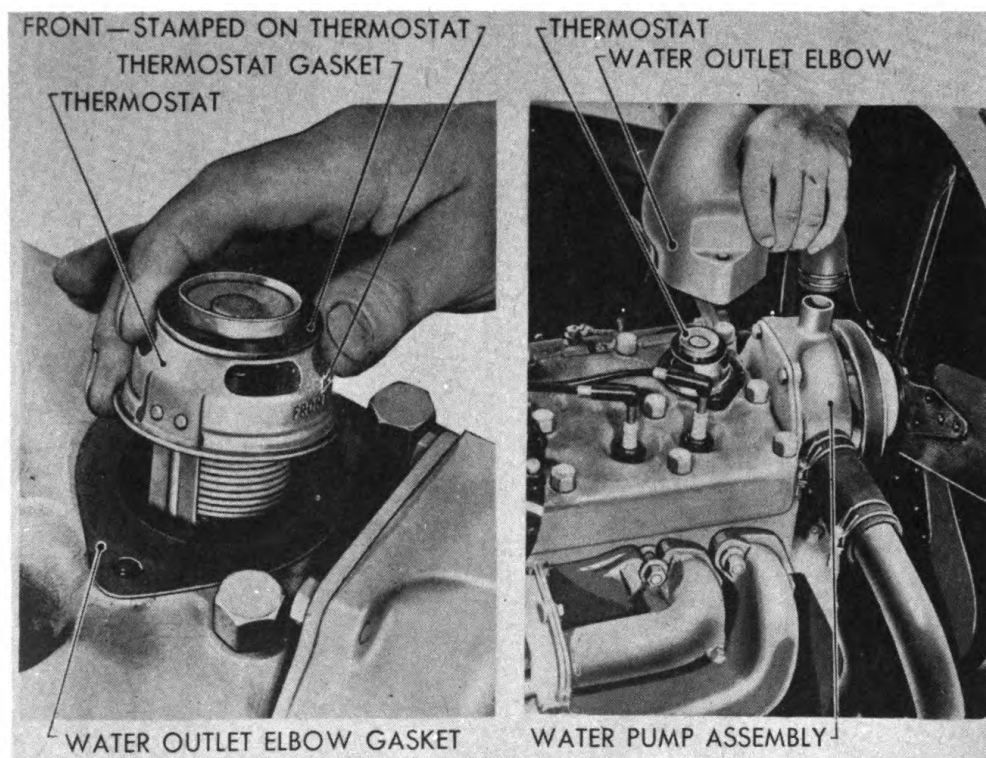
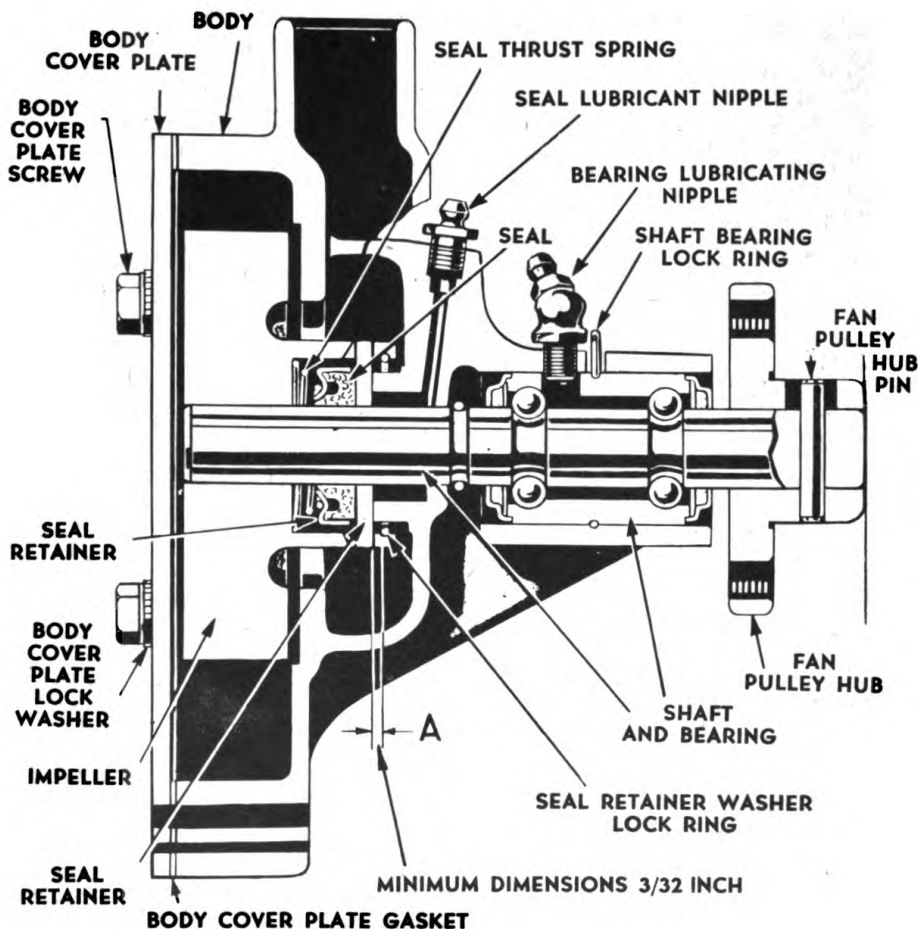

Figure 71—Cooling System—Thermostat Control
Figure 73—Cutaway View of Engine Water Pump
cylinder block, the solution circulates to and through the fin and tube type radiator where heat is dissipated into air drawn through the radiator by a fan. The circulation of the cooling solution and engine temperature are automatically controlled by a thermostat and bypass located in the cylinder head. (Figures 71 and 72.) The water pump and fan are mounted on the front of the engine and are belt driven. (Figure 73.) The water pump consists of a shaft and impeller mount-
b. **Thermostat.** If for any reason the thermostat has been removed or a new thermostat is to be installed, install with "marked front" facing the radiator with gaskets above and below thermostat as shown in figure 71. Place the cylinder head water outlet elbow and by-pass elbow assembly over the head and pump openings. In-